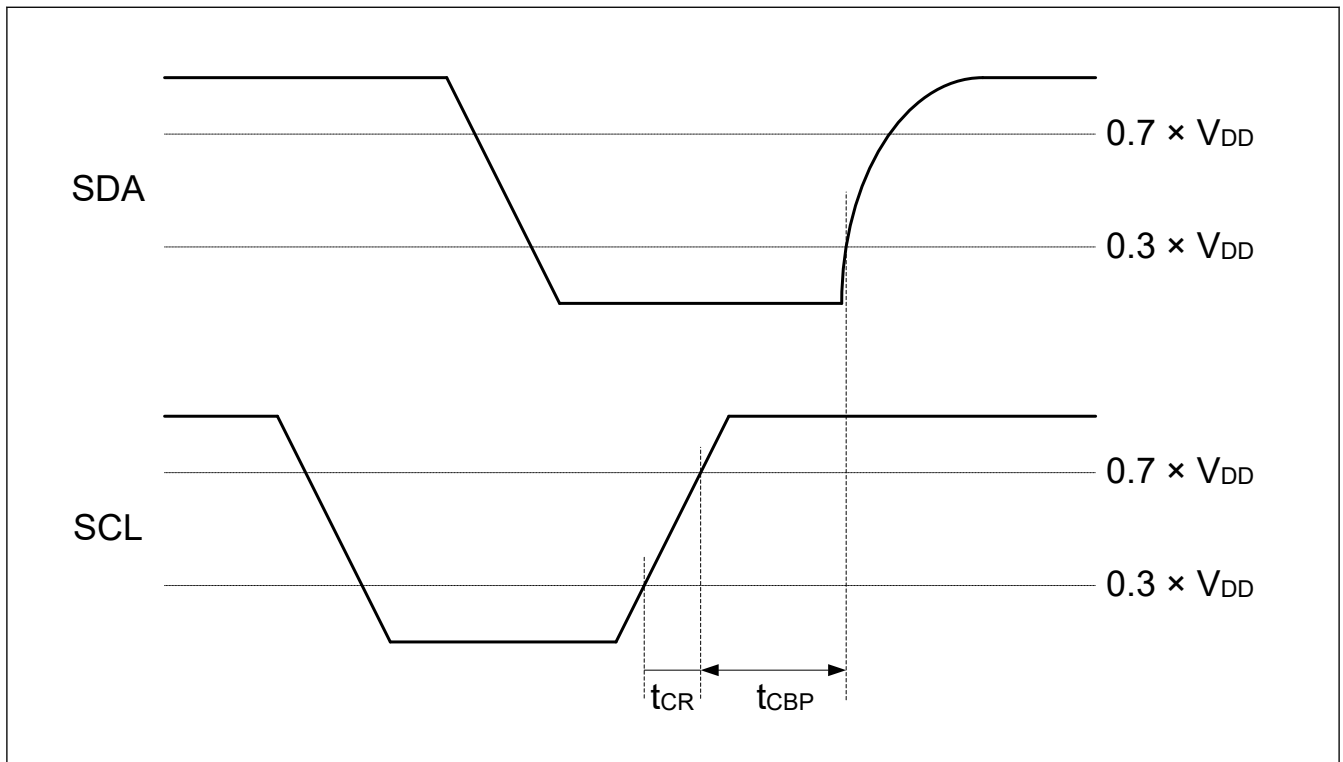

Figure 2.46 I3C STOP condition timing
| | Clock Before STOP (P) Condition | t_{CBP} | $t_{CASmin} / 2$ | — | seconds | Figure 2.46 |